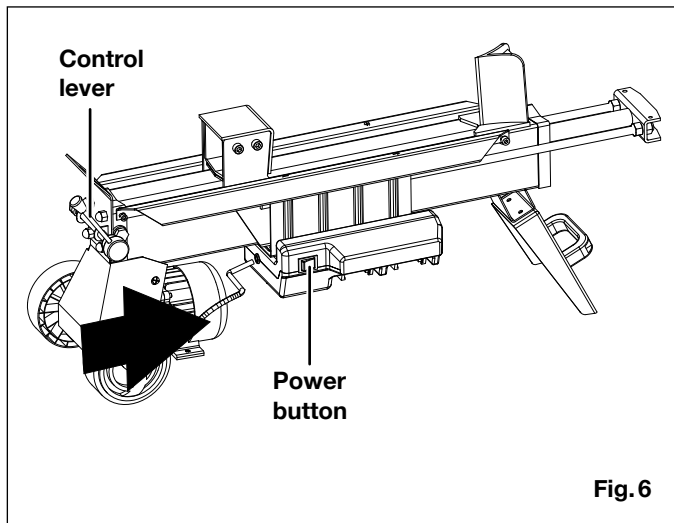

Fig. 6
4. To start splitting, push the power button with your right hand and pull the control lever with your left hand simultaneously (Fig. 6).